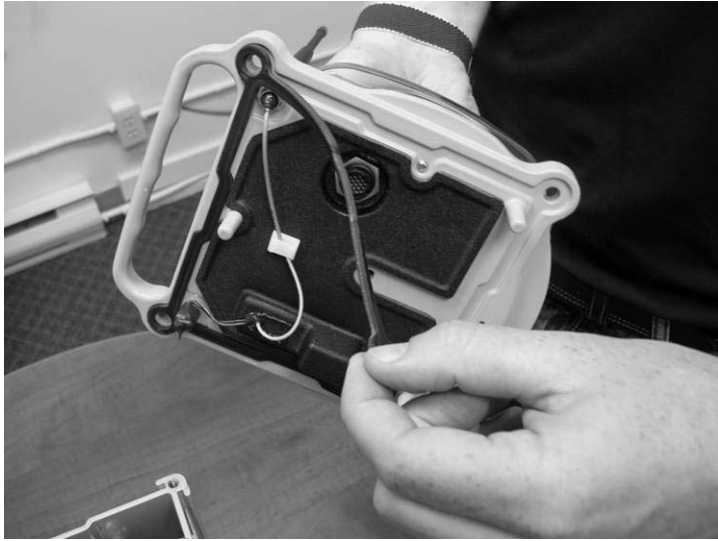

Figure 11-10: Replacing the New Gasket
17. Replace the head gasket by removing and discarding the old gasket, then inserting the new gasket. Ensure the new gasket is fully seated in the gasket groove; see Figure 11-10.